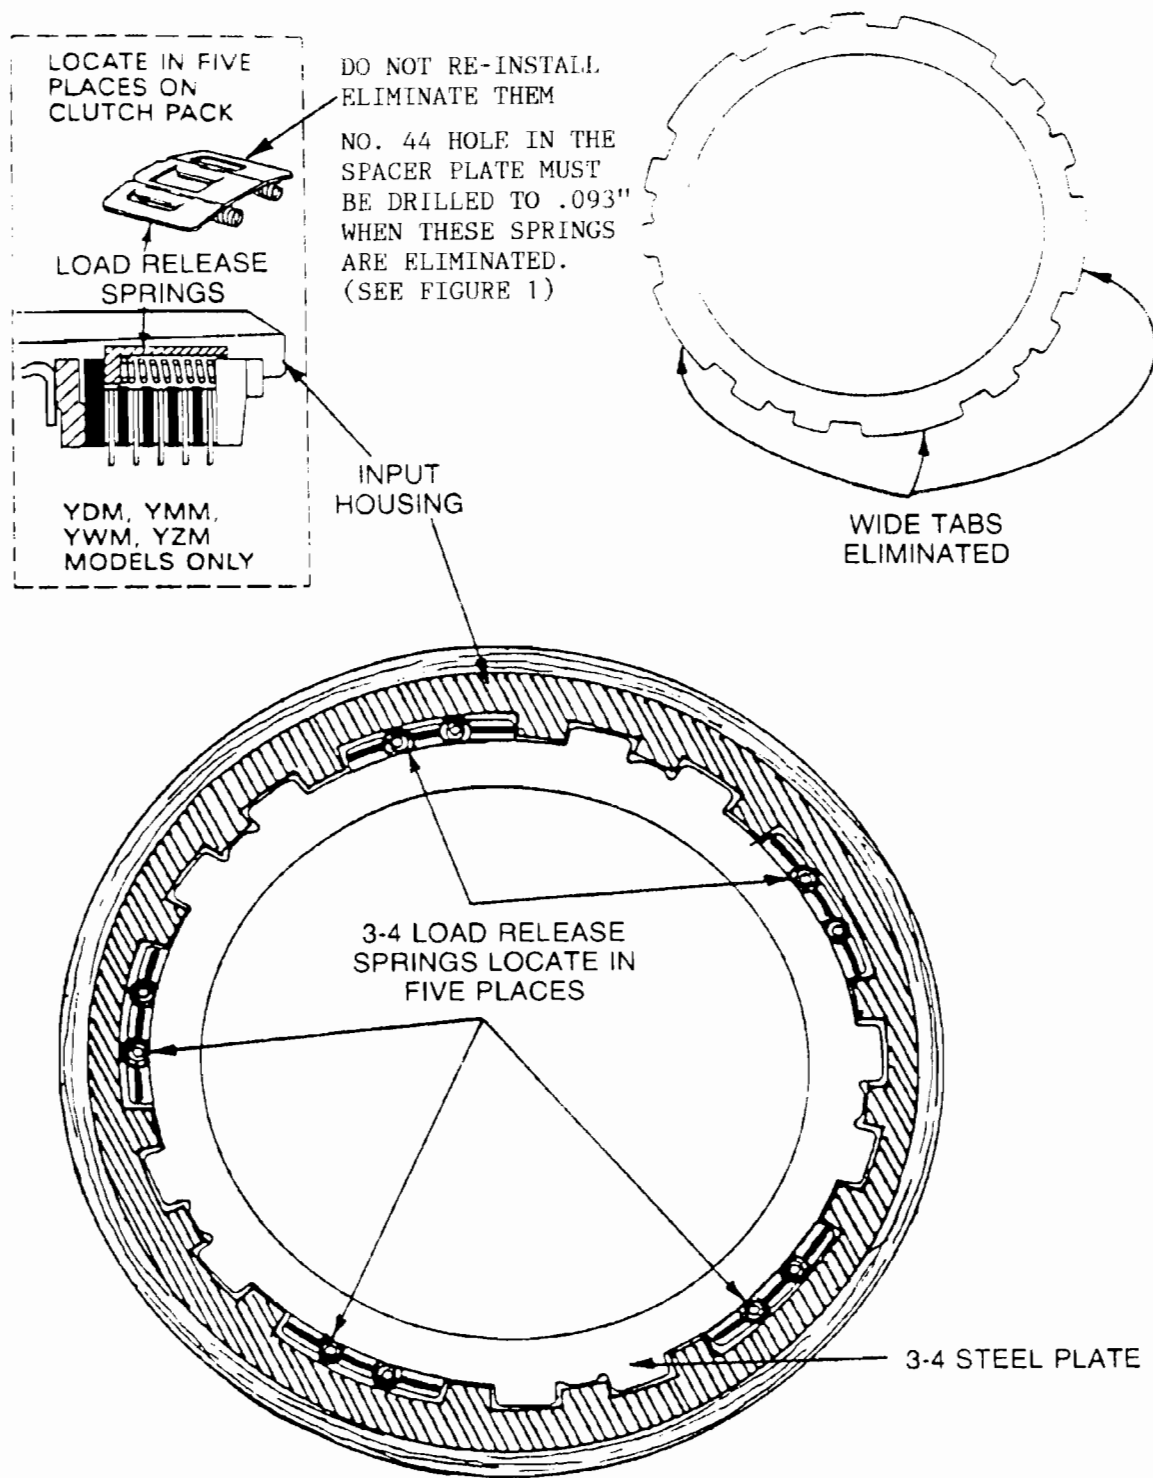

Figure 8
CHANGE: Load Release Springs are added to the 3-4 clutch pack on "F" and "Y" cars only (See Figure 8).
- (1) 3-4 Load Release Springs – Added on YDM, YMM, YWM, and YZM models only, and locates in five places around the 3-4 clutch pack (See Figure 8).
The 3-4 clutch pack now requires some special attention on the stack up. The wide tabs on the 3-4 steel plates were eliminated to make room for the load release springs (Figure 8). However, there is still "One" flat steel plate WITH the wide tabs required in the new 3-4 clutch pack. It goes on top of the stepped apply plate, and provides a "Seat" for the 3-4 load release springs (See Figure 8).